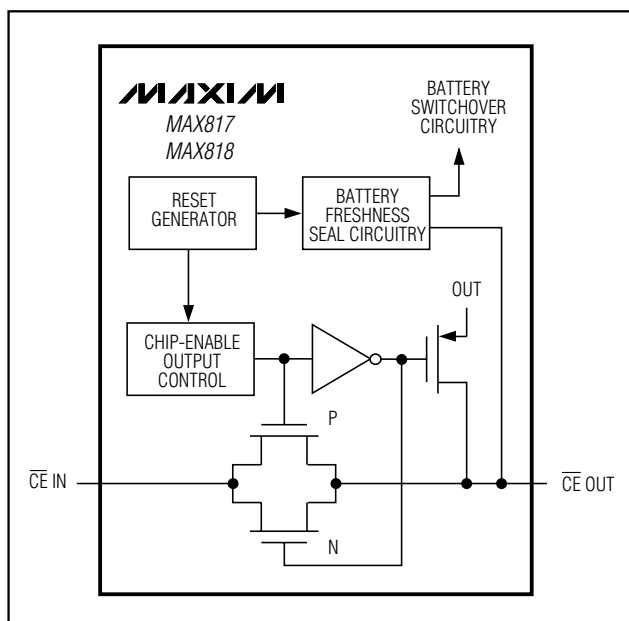

Figure 5. Chip-Enable Transmission Gate
Internal gating of the chip-enable (CE) signal prevents erroneous data from corrupting CMOS RAM in the event of an undervoltage condition. The MAX818 uses a series transmission gate from $\overline{CE}$ IN to $\overline{CE}$ OUT (Figure 5). During normal operation (reset not asserted), the CE transmission gate is enabled and passes all CE transitions. When reset is asserted, this path becomes disabled, preventing erroneous data from corrupting the CMOS RAM. The short CE propagation delay from $\overline{CE}$ IN to $\overline{CE}$ OUT enables the MAX818 to be used with most μP s. If $\overline{CE}$ IN is low when reset asserts, $\overline{CE}$ OUT remains low for typically 15 μs to permit the current write cycle to complete.
When the CE transmission gate is enabled, the impedance of $\overline{CE}$ OUT is equivalent to a 40Ω resistor in series with the source driving $\overline{CE}$ IN. In the disabled mode, the transmission gate is off and an active pull-up connects $\overline{CE}$ OUT to OUT (Figure 5). This pull-up turns off when the transmission gate is enabled.